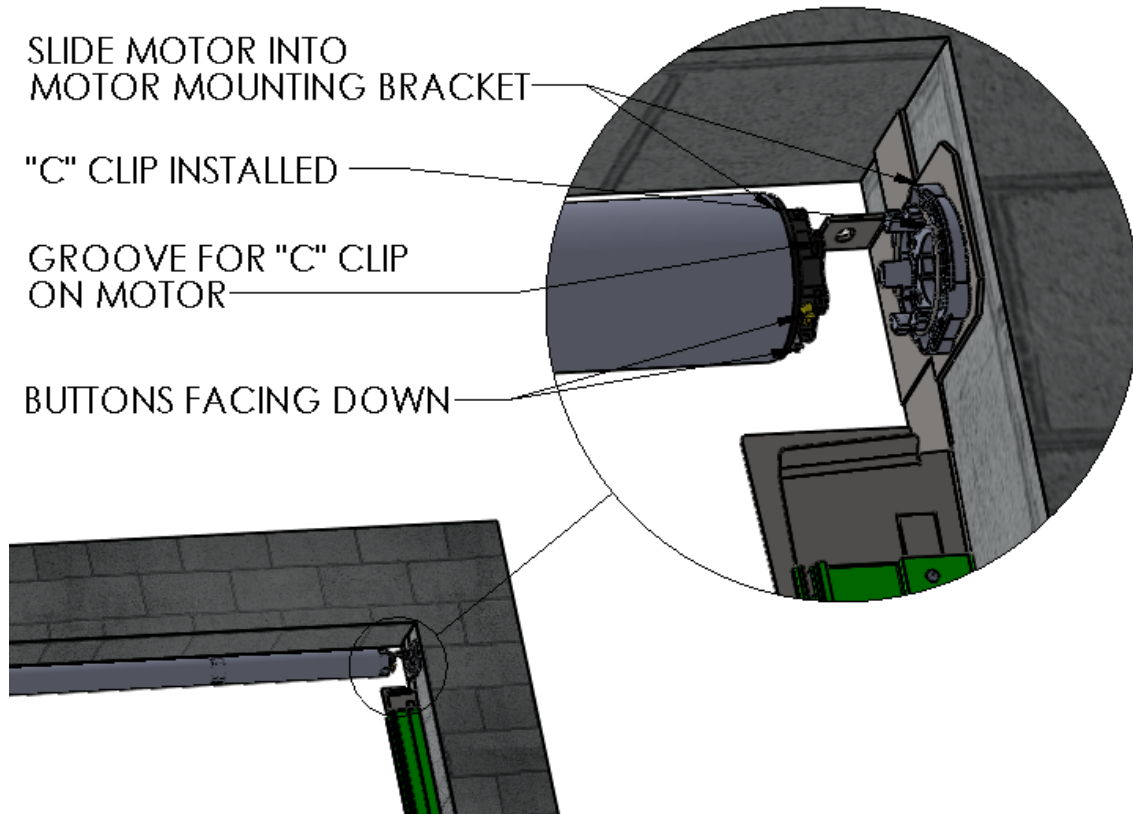

Figure 8 INSTALL R.H. SIDE OF HEADER ASSEMBLY
2. At the right side, push the Header Assembly toward the Idler side to compress (spring loaded) Idler Shaft, and insert the Motor into the Motor Mounting Bracket and pull toward the wall until the "C" Clip snaps into place around the Motor. (Figure 8 INSTALL R.H. SIDE OF HEADER ASSEMBLY)